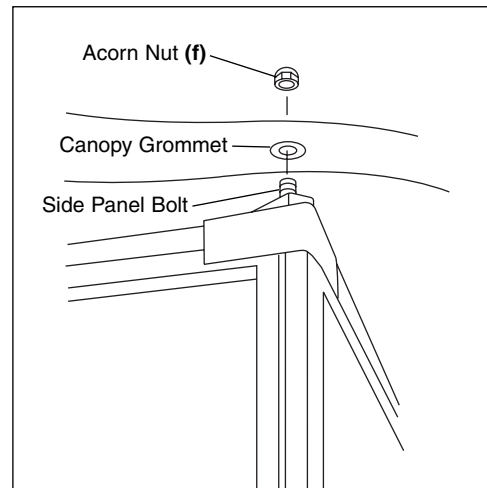

Fig. 15
- Slip grommet in each corner of canopy (s) over bolt as shown. Secure with acorn nut (f) and tighten. (Fig.15)